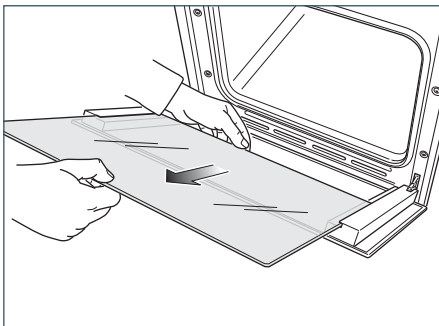

Fig.58e
- Gently pull out the inner pane of glass (Fig. 58e).